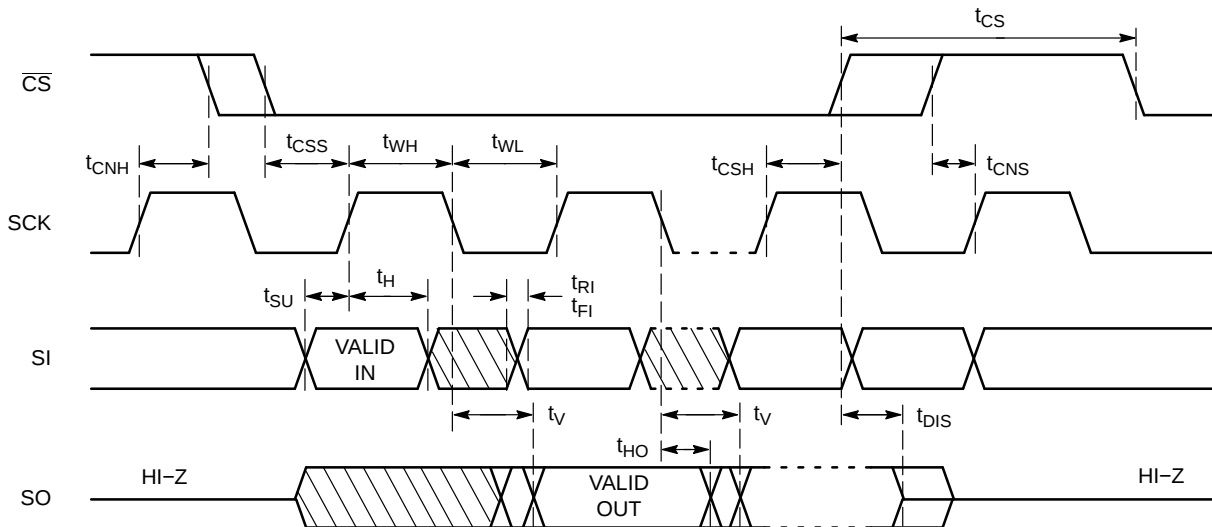

Figure 2. Synchronous Data Timing
9. All Chip Select (CS) timing parameters are defined relative to the positive clock edge (Figure 2). t_{CSH} timing specification is valid for die revision C and higher. The die revision C is identified by letter "C" or a dedicated marking code on top of the package. For previous product revision (Rev. B) the t_{CSH} is defined relative to the negative clock edge.
After a high to low transition on the $\overline{\text{CS}}$ input pin, the CAT25256 will accept any one of the six instruction op-codes listed in Table 10 and will ignore all other possible 8-bit combinations. The communication protocol follows the timing from Figure 2.